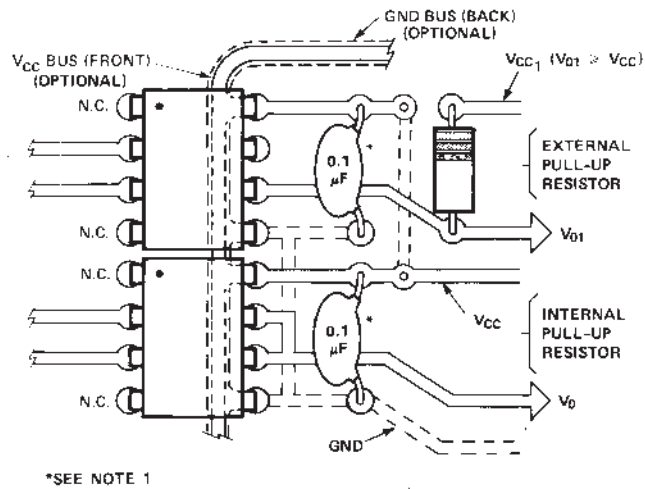

Figure 19. Recommended printed circuit board layout.
1. Bypassing the power supply line is required with a $0.1 \mu\text{F}$ ceramic disc capacitor adjacent to each optocoupler as illustrated in Figure 19. The power supply bus for the optocoupler(s) should be separate from the bus for any active loads, otherwise a larger value of bypass capacitor (up to $0.5 \mu\text{F}$) may be needed to suppress regenerative feedback via the power supply.
A recommended layout for use with an internal 1000 Ω resistor or an external pull-up resistor and required V_{CC} bypass capacitor is given in Figure 19. V_{CC1} is used with an external pull-up resistor for output voltage levels (V_O) greater than or equal to 5 V. As illustrated in Figure 19, an optional V_{CC} and GND trace can be located between the input and the output leads of the HCPL-2300/HCPL-0300 to provide additional noise immunity at the compromise of insulation capability (V_{I-O}).